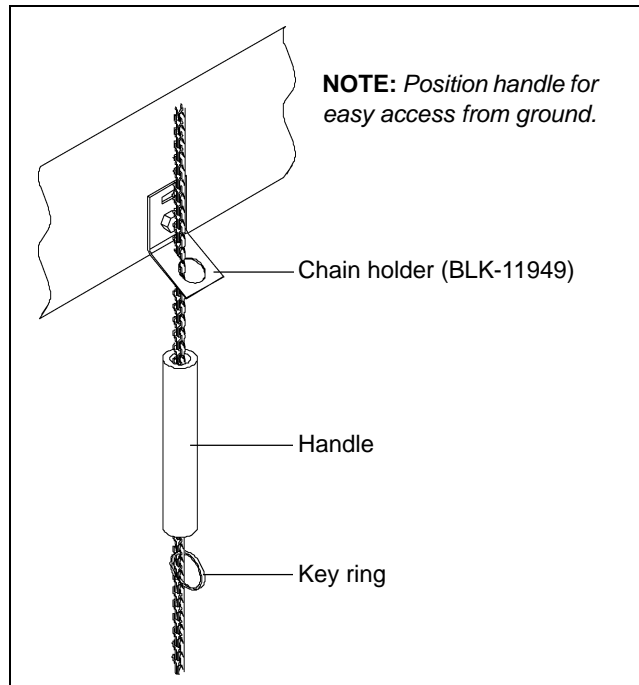

**Figure 7** Tighten Bolts Until Flush with Bracket
3. Place the new lid assembly over the existing peak ring collar and rotate lid assembly such that the lever arm and spring hinge line up with the roof eave bracket. (See Figure 1 on Page 1.) Use a clamp to pull the mounting brackets together. Slide the carriage bolt through the mounting bracket and then the 2-3/4" spacer and then loosely fasten the nut. (See Figure 6.) Remove clamp and then tighten the bolt with 9/16" ratchet and tighten until flush. (See Figure 7 on Page 4.)